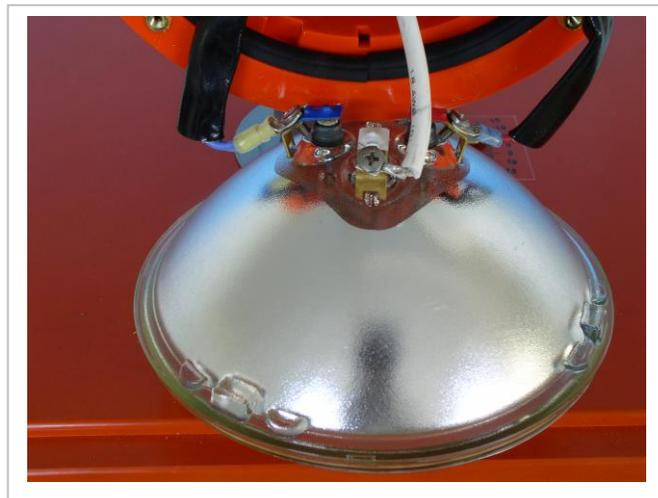

Figure 17b
- Loosen, but do not remove three Phillips head screws securing electrical wires at the back of the lamp (shown in Figure 17b).
Replacement is the reverse of removal, but with attention to wire routing and flash lamp orientation. **Be sure that the wires approach the lamp terminals exactly as shown in Figure 17b!**
- Note the manner in which the white wire approaches the electrode terminal post on the lamp, then loosen, but do not remove, the screw holding the wire. See Figure 17b.
- At the front of the housing, attach the white wire to the proper lamp terminal taking care to bring the wire to the lamp terminal as shown in Figure 17b.